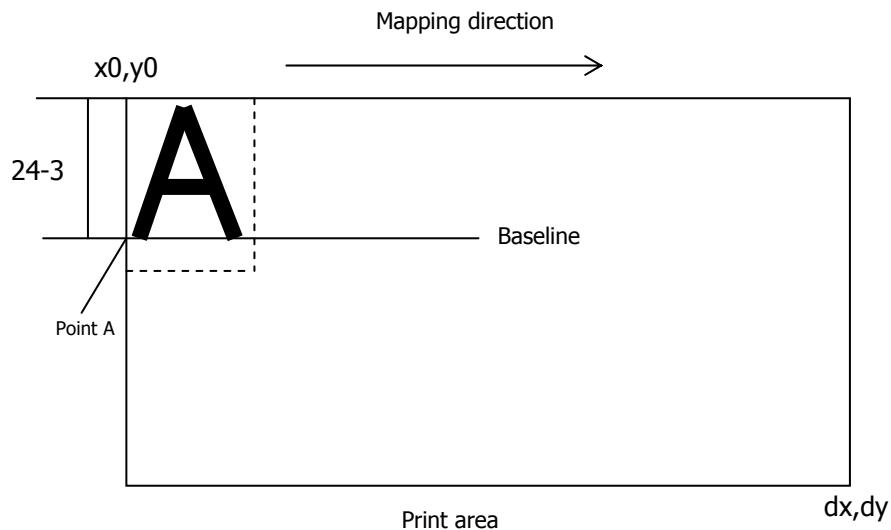

Figure 4-1 Mapping Position for Character Data
- (1) The print area is set by ESC W. When the printer has finished all of the print and paper feed actions specified before receiving an ESC W, the ESC W sets the right end (as viewed facing the printer) as the start point ( $x_0, y_0$ ) of the print area. The print area is a rectangle defined by two edges extending from the start point ( $x_0, y_0$ ): one edge running in the "x" (Horizontal) direction by "dx" pitch (inclusive of the start point), and the other running in the "y" (Vertical) direction by "dy" pitch. (If no ESC W is defined, the default values are used to define the print area.)
- (2) With a print area defined by ESC W and a print direction specified by ESC T, when the printer receives print data, the print data is mapped in the print area where point A (see the Figure 4-1 "Mapping Position for Character Data") is used as the initial value of the start point. If the print data consists of characters, this start point serves as the baseline.